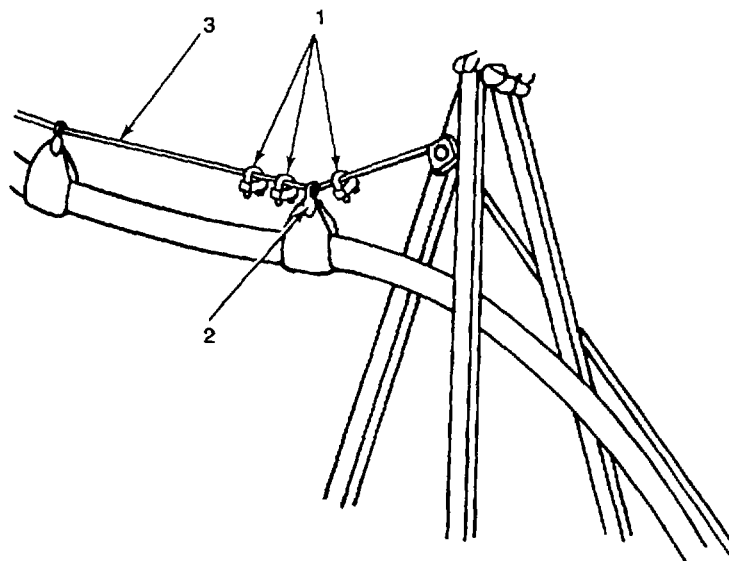

Figure 2-14. Securing End Shackles
- (22) When hoseline is in place, use three or more U-bolt clamps (1, Figure 2-14) to secure end shackles (2) to wire rope (3).